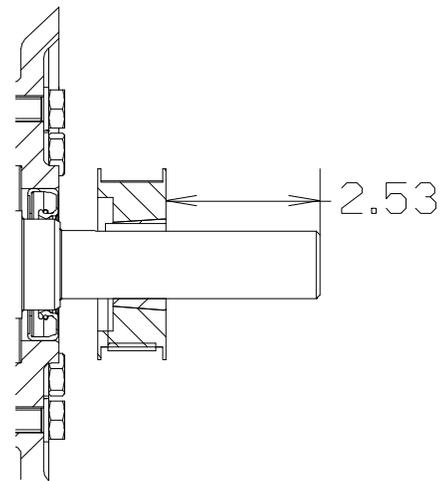

Figure 7. Drive Sprocket Positioning
Install the key (47) in the shaft keyway, making sure to leave room in the keyway for the drive key (44). Install the sprocket (45) and bushing (46) on the shaft to the dimension shown in Figure 7.